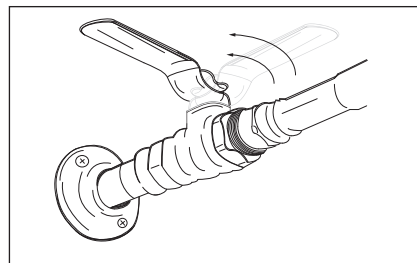

Figure 10 - Cold water supply in OFF position.
- Turn the cold water supply valve **OFF** (Figure 10).